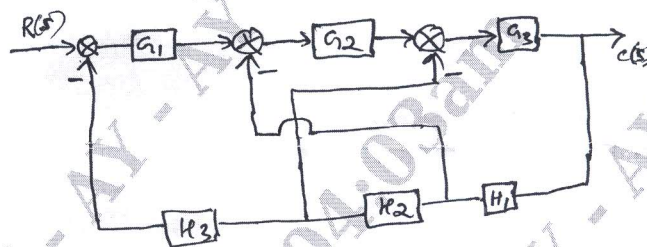

Fig.Q8(b)
b. Determine the transfer function  $\frac{C(s)}{R(s)}$  for the block diagram shown in Fig.Q8(b).